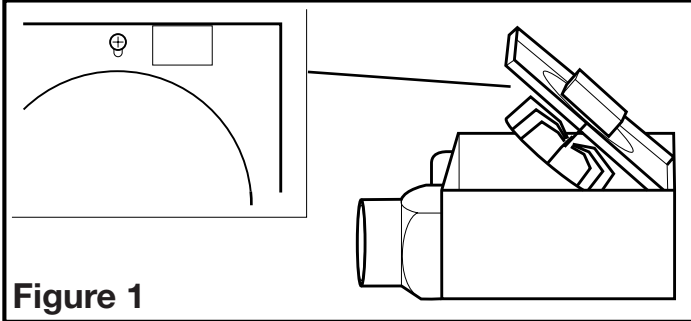

Figure 1
2. Remove the fan's venturi assembly, which is secured in place with one screw through the venturi (Figure 1). This is a captive screw and will stay installed in the venturi. Keep the venturi assembly and the grill in the carton until needed so they do not get damaged or lost.